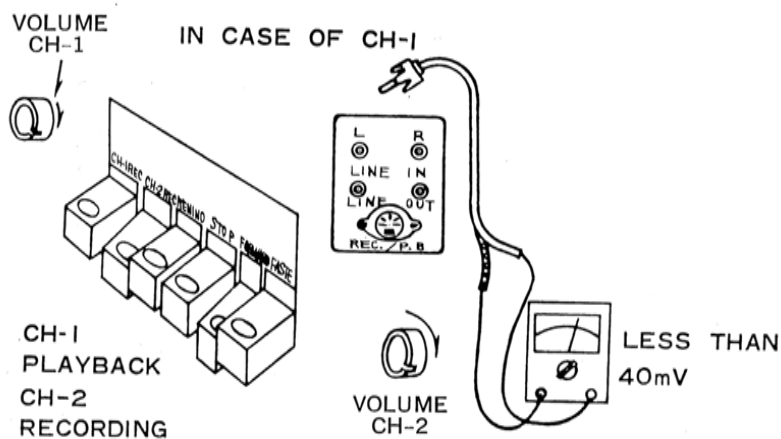

Fig. 15
4) Bias trap adjustment..... Fig. 15